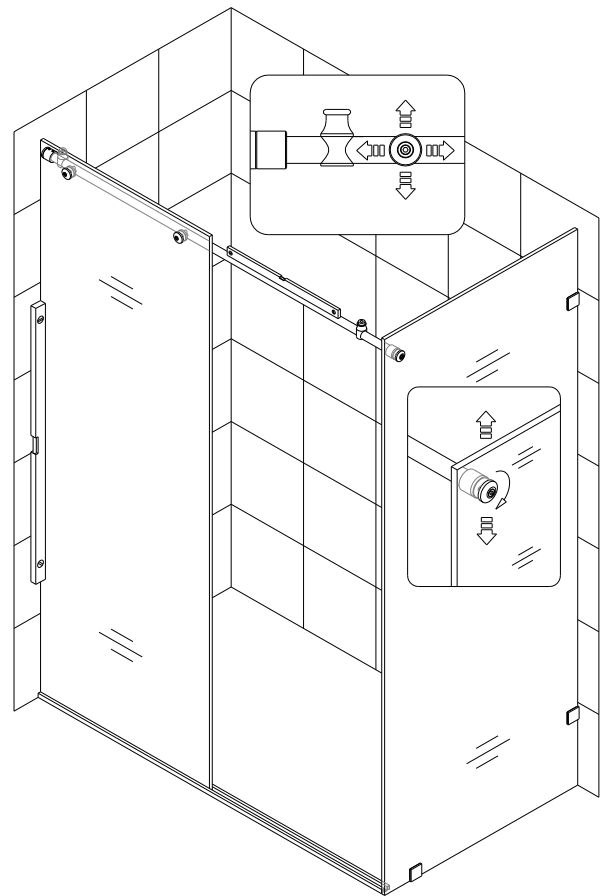
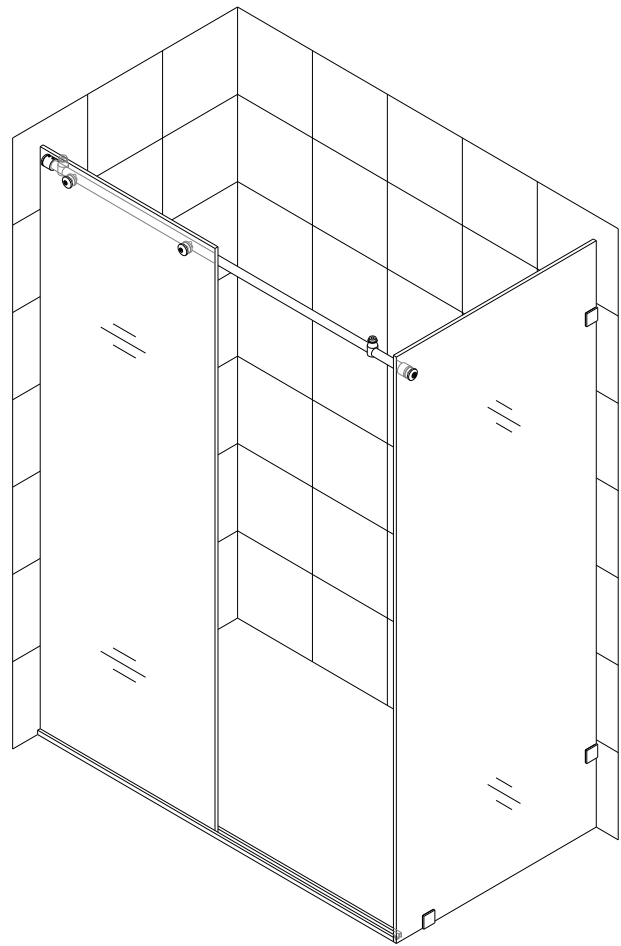

Fig. 12
Fig. 14
b) Level the glass and the **Running rail**. If a horizontal adjustment is required, adjust it in the **Glass brackets** and the **Glass connector**. See fig. 12 for details.
c) When the **Front stationary glass** and the **Running rail** had been leveled, slide the **Wall bracket** on the rail against the wall and mark its position with a pencil. Remove the glass panel. Using the **Wall bracket** mark the hole for drilling on the wall and drill the hole. Insert the **Large anchors 3/8" (9)** and screw the male part of **Wall bracket** onto the wall using the **Round head screw ST6x45 (10)** (you only need to use one of the two male parts detached from the wall brackets).
d) Apply a small amount of silicone along of the **Threshold** channel. Place the **Front stationary glass** back in position and attach the **Wall brackets** to the male part on the wall and on the **Return glass panel**. Tighten the fastening set-screws with provided Allen Key on the **Wall brackets** to secure the **Running rail**. See fig. 14 for details.